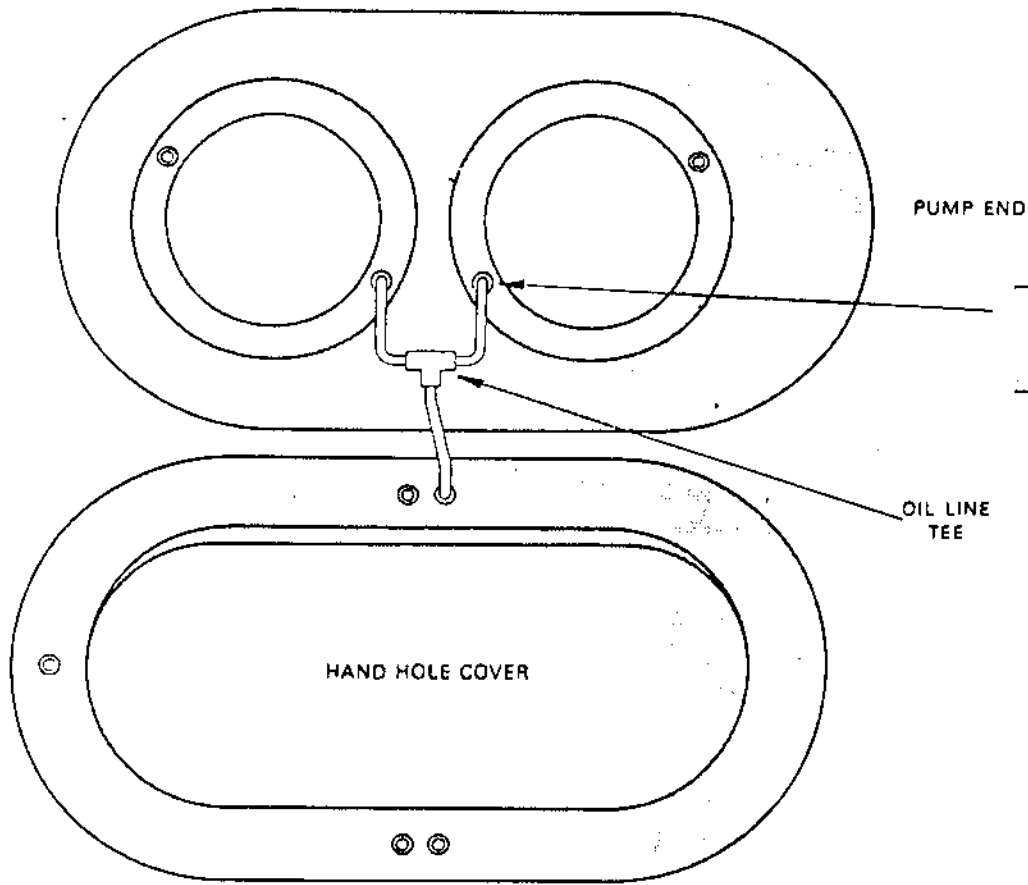

FIGURE 1
1. With compressors that are to be completely rebuilt, it is recommended that the oil supply line to cylinder number 7 be capped off and soldered shut (See Figure 1). A cylinder liner assembly (without unloaders) should be installed. NOTE: Do not pinch or crimp oil supply line. Vibration will eventually break the line.